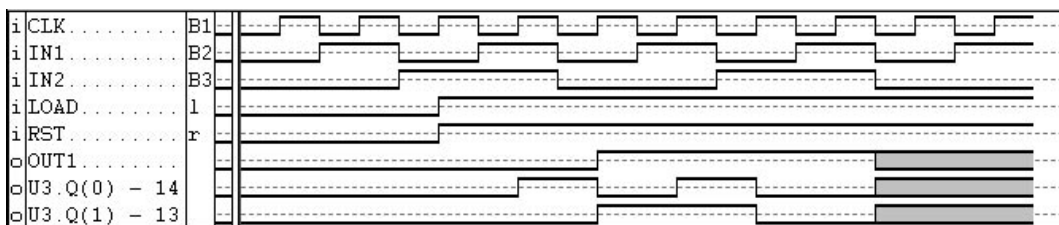

Figure 1-32. Timing Mode Circuit Analysis.
To become more familiar with the timing simulation process and available options, load the *TEST_A* netlist, which has been generated from the schematic shown in Figure in Figure 1-6. Select the signal names listed shown in Figure in Figure 1-32 and assign to them the stimulators listed in the same figure.
1. Click on the selected device pin or signal name, e.g. the *RST* signal shown in Figure in Figure 1-32.